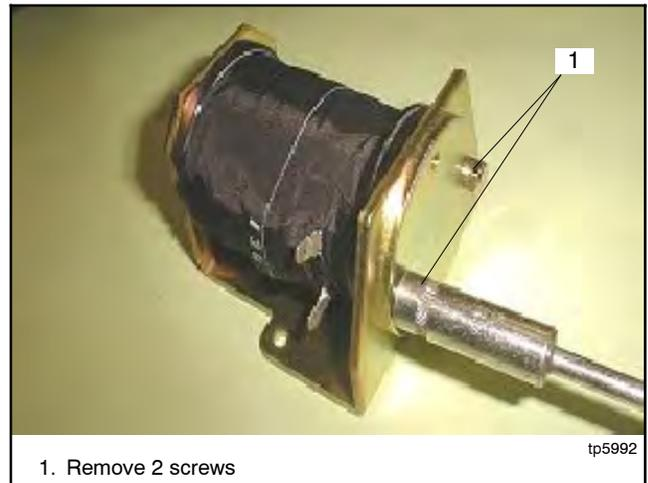

Figure 7-7 Disassembling the Coil Assembly
1. Remove two screws from the core plate. See Figure 7-7.
3. Install the core plate and tighten the two core plate screws. See Figure 7-7.